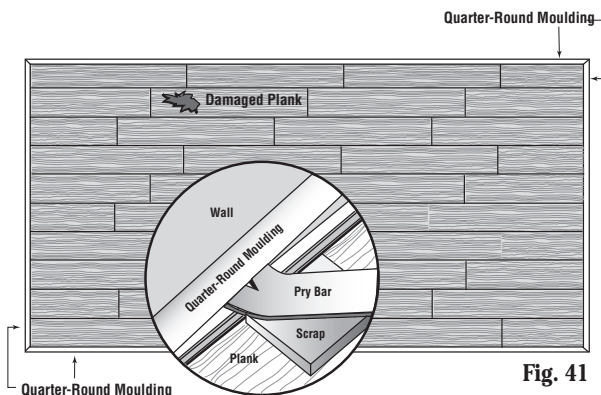

Fig. 41
1. In case of a major problem with the locking system, it is possible to replace an entire piece of the flooring. In most cases, just remove the moulding from the walls nearest the damaged board (Fig. 41).